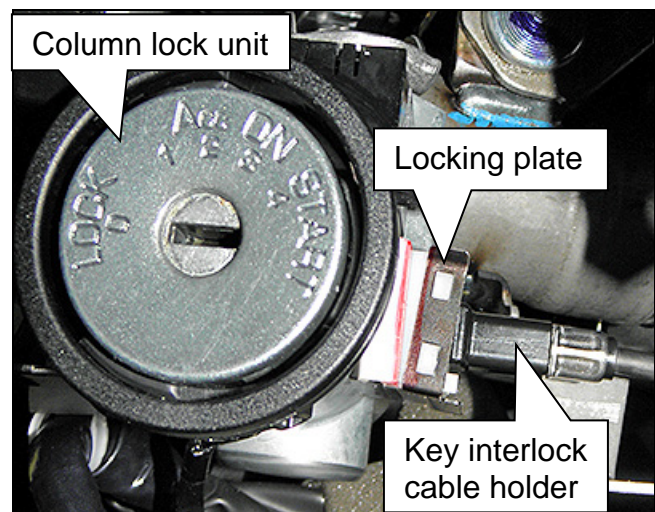

Figure 24
18. Verify the holder of “key interlock cable” (end of key interlock cable) is secure to the column lock unit with the locking plate (clip) in place. See Figure 24.